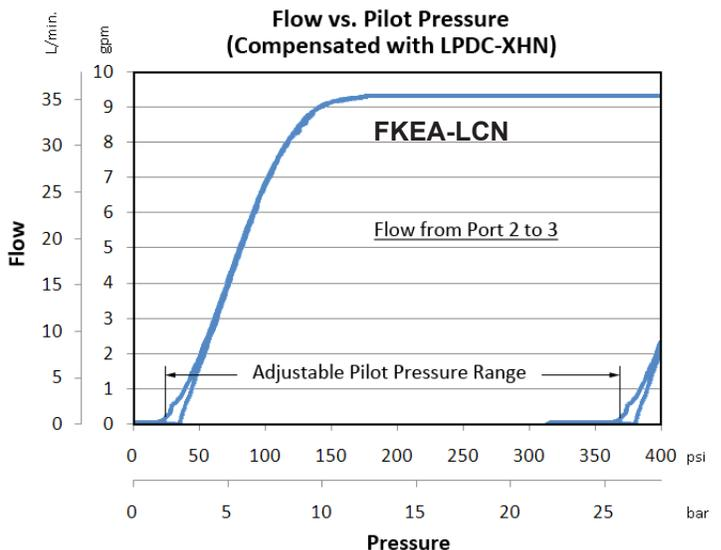

Figure 2
- To increase flow accuracy, an external modulating element (pressure compensator) can be used to maintain a constant pressure drop (200 psi is recommended) across the metering orifice, resulting in a constant output flow when varying inlet and load pressures are present. (See **Figure 2** example)
- An optional tuning adjustment ("L" control) is available for varying the required pilot pressure for a given flow. The adjustment range is 50 to 300 psi (3,5 bar–20 bar), with 100 psi (7 bar) being the standard setting. (See **Figure 2**)